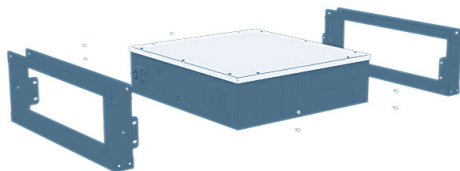
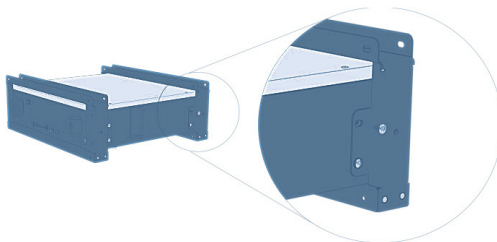

Figure 3-3
Figure 3-4
1. LVR Syntero Series brackets The LVR Syntero Series bracket is shown before installation as shown in Figure 3-3.
Place the LVR Syntero Series and brackets as shown in the figure3-3, and insert the LVR Syntero Series into the brackets. Each bracket is connect to the module by four screws, two screws on one side. As shown in Figure 3-4.